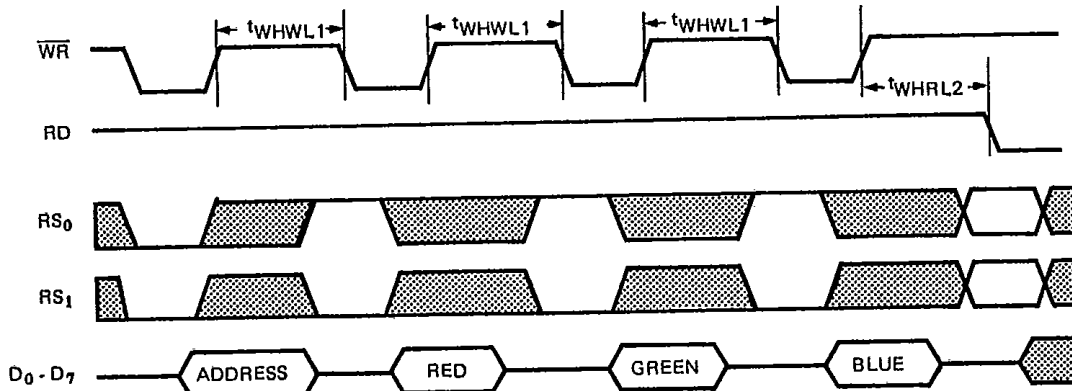

Figure 10. Color Value Write Followed by any Read.
The Pixel Address register is a byte-wide latch that receives and latches address information applied to pins P₀-P₇. It can be used in both Read and Write mode depending on the logic state of RS₀ and RS₁. With RS₀ = RS₁ = 0 (register select = 0, 0), the Pixel Address register is in the write mode. Two events normally precede WRITING one or more new color definitions to the color palette. The first is the specification of a color palette address. Second, the Color Value register must be loaded with a color definition. The sequence of data transfer is (1) the desired color palette address - this address is stored in the Pixel Address register and (2) the color definitions: RED, GREEN and lastly, BLUE. Refer to Figures 10 and 11.
Value register for a total of 18 bits. This new color definition is then transferred to the location pointed to by the information stored in the Pixel Address register. As soon as this transfer is completed, the Pixel Address register is auto-incremented. This allows consecutive color palette locations to be updated without the microprocessor specifying each address. All that is necessary is to continue supplying the RED, GREEN and BLUE data for each consecutive address. Refer to Figures 10 and 11.